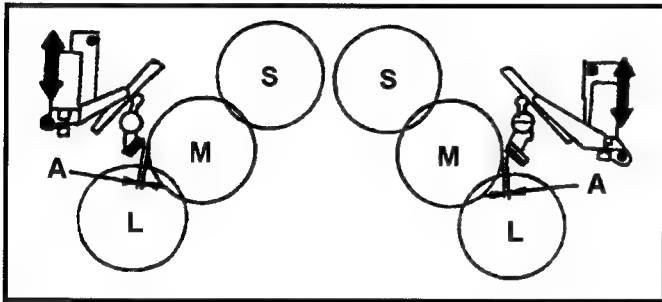

Fig.6-5-2 Brake Solenoid Adjustment
2. Observe the clearance (A) between Brake pad and it's turntable as shown in Figure 6-5-2. And make sure that it is within 0.2 to 0.5mm.
3. If not, loosen the 2 screws (A), which fixed supply and Take Up Brake Solenoid Unit. And adjust the position of Brake Solenoid Unit by moving arrow direction so that the clearance (A) is within specification. And tighten the 2 screws (A).
4. After adjustment, change the reel position to S and L cassette size, and confirm that the clearance (A) is within specification.